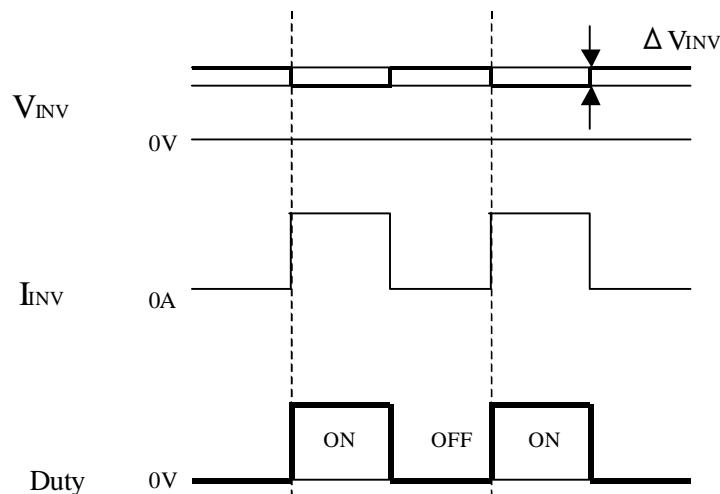

Fig.4 Brightness control voltage.
- b) Brightness control voltage is switched for “ON” and “OFF”, as shown in Fig.4. Voltage difference generated by this switching, ΔV_{INV} , may affect a sound output, etc. when the power supply is shared between the inverter and its surrounding circuit. So, separate the power supply of the inverter circuit with the one of its surrounding circuit.